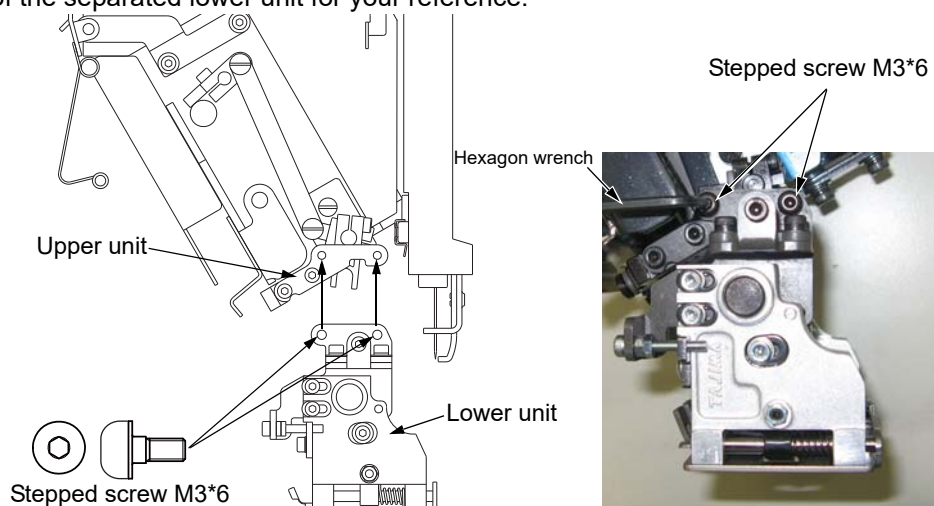

Fig. 1
- (1)** As shown in the figure 1, attach the lower unit that is packed separately to the upper unit by using the stepped screw that is also packed separately. One unit of sequin has four pieces of the attaching screw.